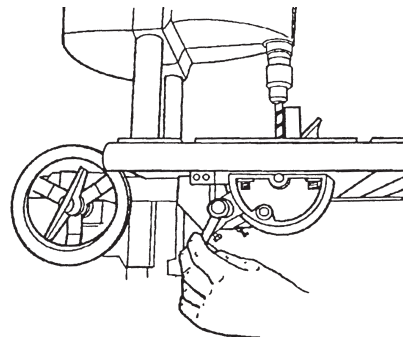

Figure 21
10. When the Table is exactly perpendicular to the Drill Bit, lock the Table, as seen in Figure 21.